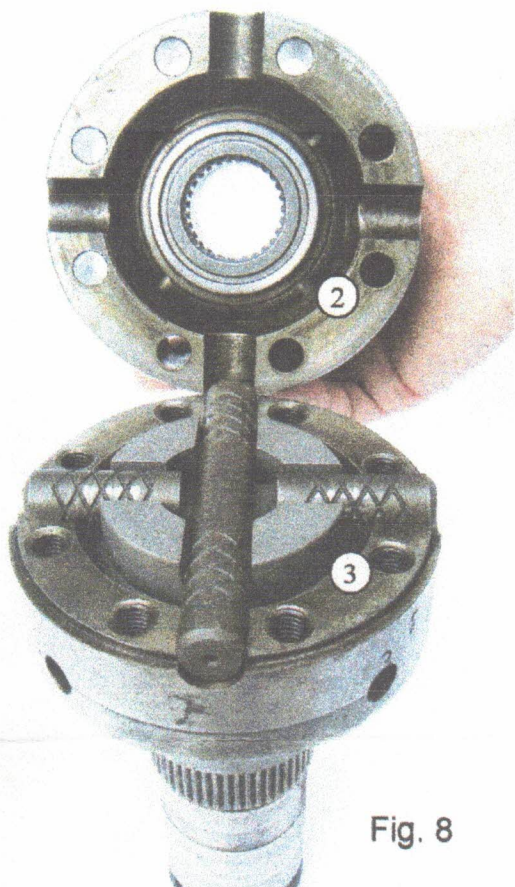

Fig. 8
- 10) Reassemble front case (2) into the differential rear case (3) [Fig. 8] as per procedures in the "Land Rover" service manual.